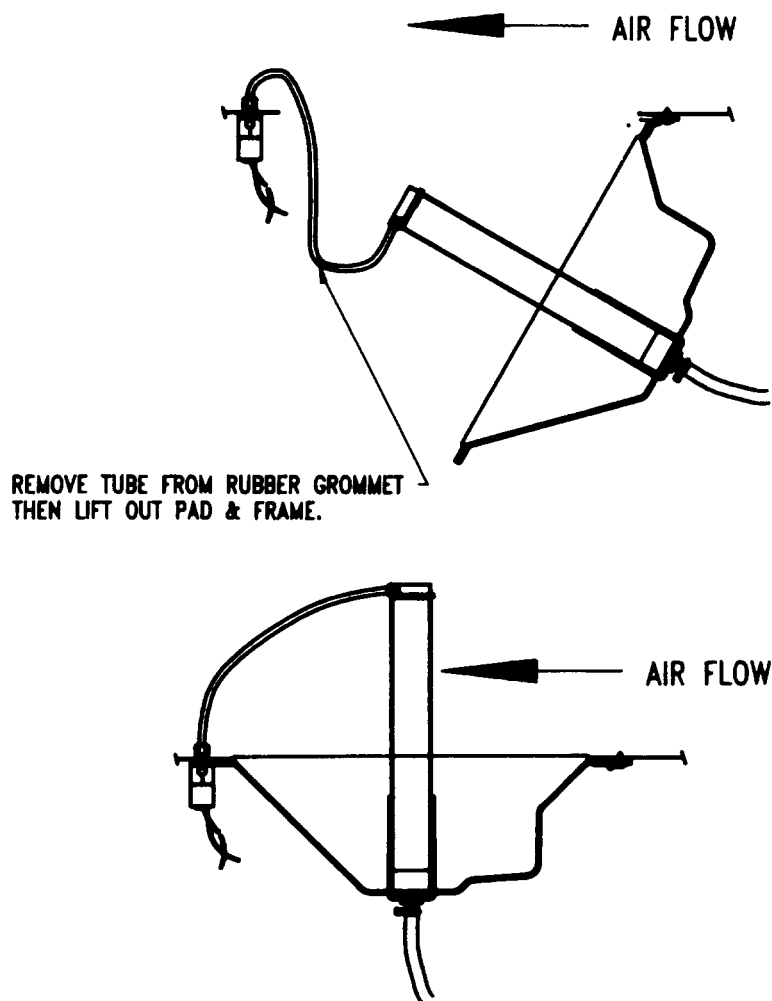

FIGURE 13
2. Place the evaporator pad between the two guide rails in the bottom inside sides of the pan, then place the pad frame combination drip tray assembly over the evaporator pad, with the rubber grommet facing you. Insert the plastic water tube in reverse to the procedures shown in Figure 13.